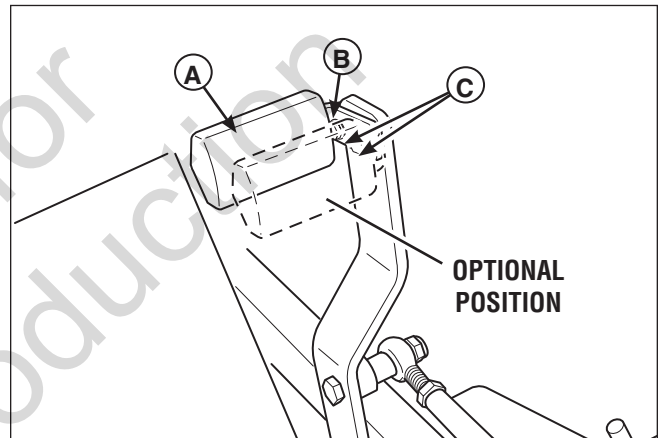

Figure 6. Foot Pedal Adjustment
1. Remove the foot pedal (**A, Figure 6**) from the pedal mount tab (**B**).
4. Reinstall the foot pedal on the pedal mount tab in the proper orientation as shown in Figure 6.